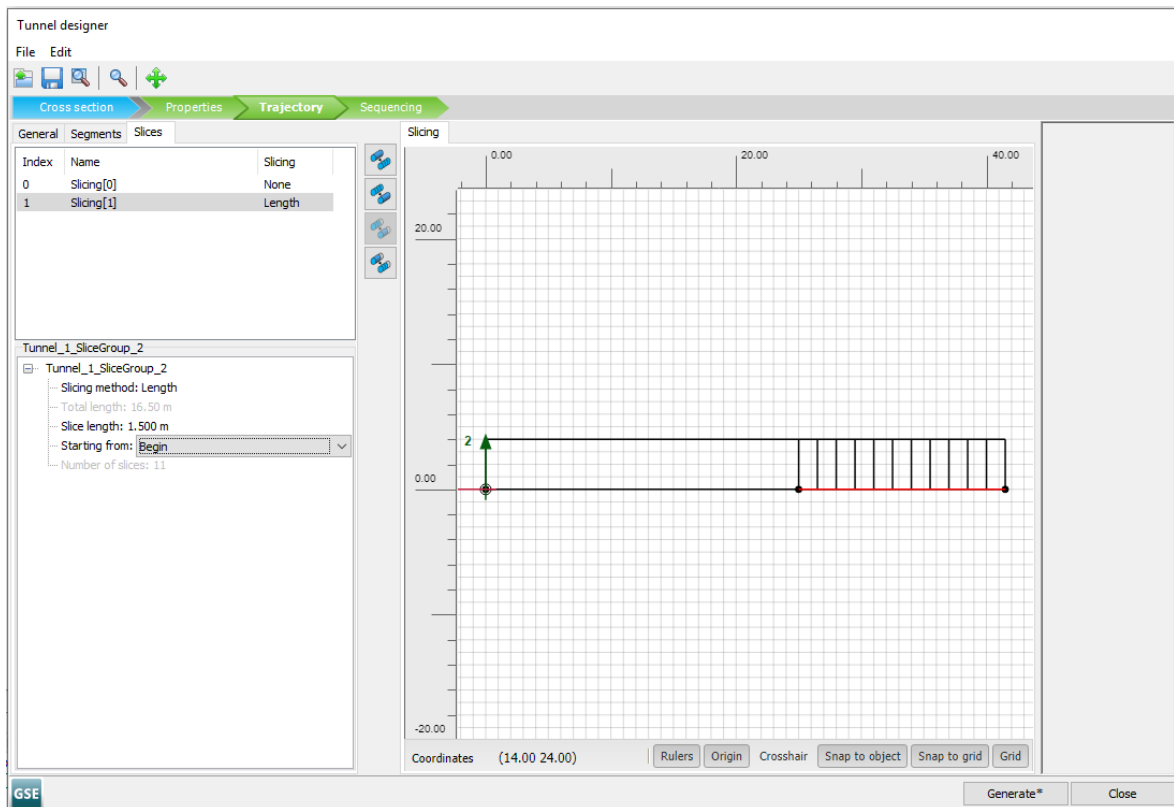

Figure 70: Trajectory tabsheet of tunnel designer-Slicing a trajectory segment
6. In the **Selection explorer**, go to the **Slicing method**, chose *Length* and set the **Slice length** as 1.5m (Figure 70 (on page 97)).